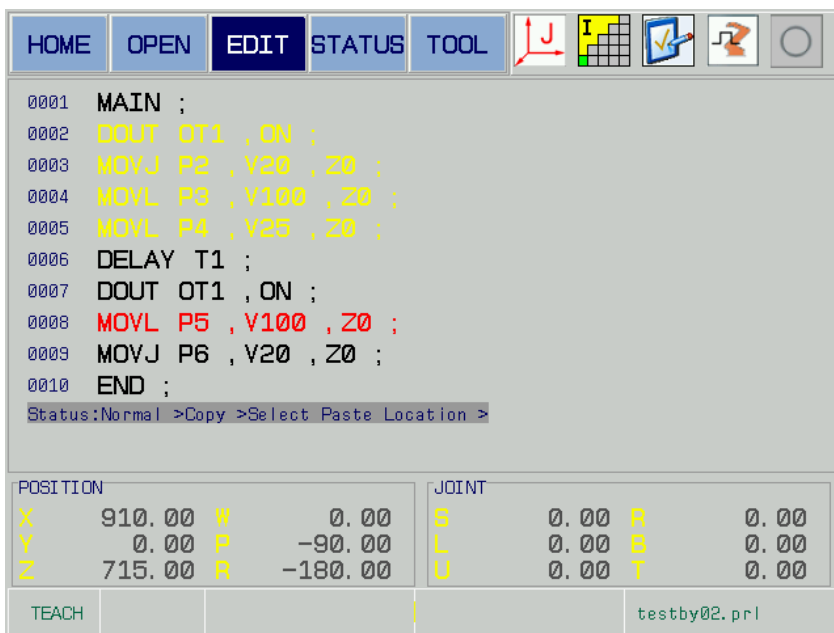

Fig. 5-44
3. Press the [COPY] before selecting the copy area, in this case, the "Select Paste Location" prompts at the bottom of the page; move the cursor to the previous line of the eventual position to be pasted, for example, copy the 2nd, 3rd, 4th and 5th line program to the back of the 8th line; refer to the Fig. 5-44.